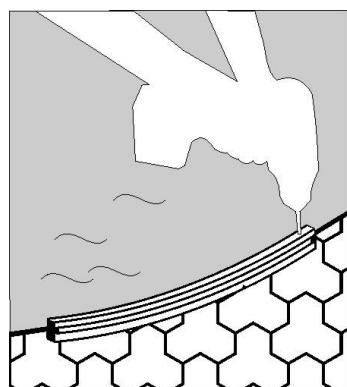

fig. 3.6
- Remove the PVC ring (5) from the „C“ profile.
- Make marks on the ground by drilling through the holes on the upper side of the „C“ profile (fig. 3.6).